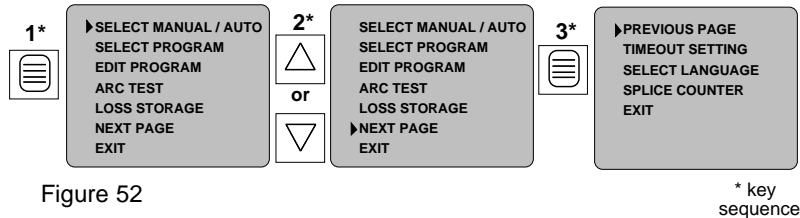

Figure 52
6.1 After turning on the set, press the program key to bring up the first menu page. Use the Menu keys to scroll through the functions and the program key to select the desired program or exit the menu (Figure 52).